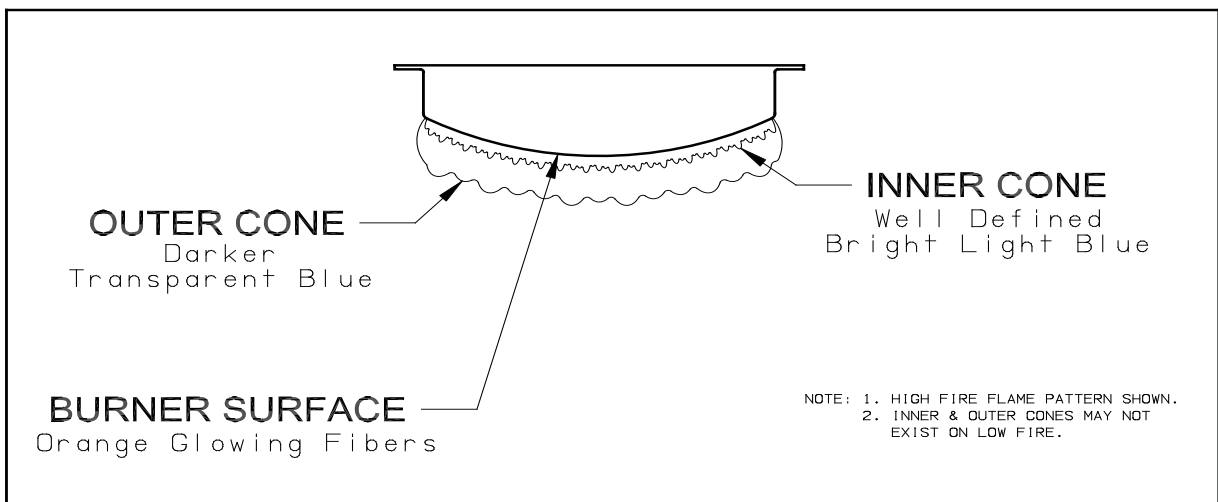

Figure 10.1: BWC Burner
- 9) Inspect the flame visible through the window. On high fire the flame should be stable and mostly blue (Fig.10.1). No yellow tipping should be present; however, intermittent flecks of yellow and orange in the flame are normal.